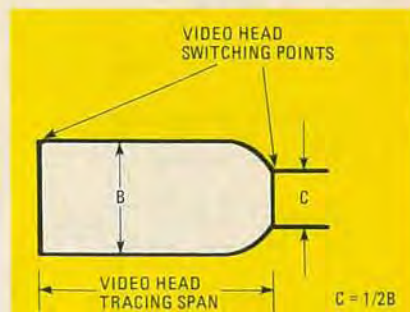

FIG. 24—WHEN THE NEXT SET of adjustments is completed, the amplitude at C should be one half that at B.
7. Adjust screw C so that the tape top edge does not hit against the guide below. Then adjust screw C and D to make the waveform amplitude at C equal to one-half that at B, as shown in Fig. 24. While doing that adjustment, check that the tape-bottom edge is steadily in contact with the flange shoulder below screw D. Also, use an inspection mirror to check for slack along screws C, D and the lead section. The type of mirror used by dentists is very handy for checking tape slack at inaccessible points. The proper adjustment of screw C will give you the optimum waveform as described with no slack.